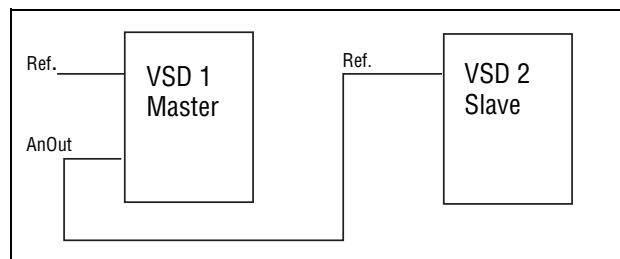

Fig. 97
- a reference signal for the next VSD in a Master/Slave configuration (see Fig. 97).